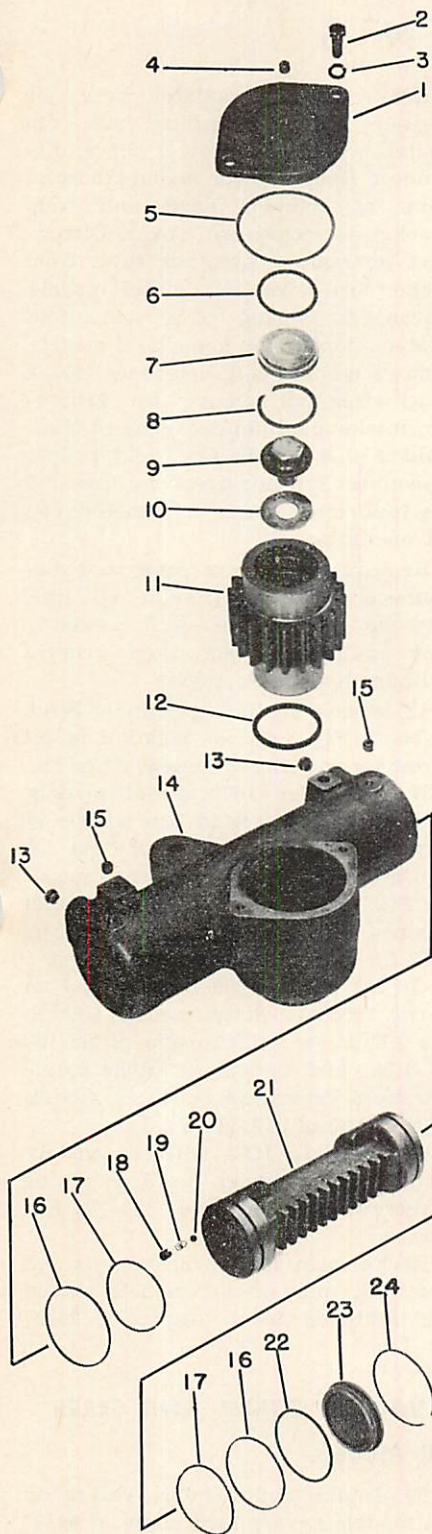

Fig. O52 — Exploded view of power steering cylinder assembly used on all models except those equipped with four wheel drive.
power steering cylinder and immediately cap all openings. Refer to Fig. O52; remove plug (4) from cap (1) and remove cap from power steering cylinder. Pry plug (7) from pinion (11). Pull pinion from splines of front assembly shaft by turning puller bolt (9) counter-clockwise.
Reverse removal procedures to re-install cylinder. Punch mark on tooth of pinion (11) must be aligned with center tooth groove in piston as shown in Fig. O51. Tighten the puller bolt to a torque of 200 Ft.-Lbs., and tighten the nuts on torque link and tapered stud securely. Install plug (7—Fig. O52) with new "O" ring (6). Fill cavity around pinion with proper power steering fluid (see paragraph 48) before reinstalling cap (1) with new "O" ring (5).
58. OVERHAUL POWER STEERING CYLINDER. After removing the cylinder assembly as outlined in paragraph 57, proceed as follows: On Wheatland and Industrial models, remove pinion (11—Fig. O52). Remove snap ring (8), puller bolt (9) and washer (10). To remove end plug retaining snap ring (24), insert pin or punch in hole (H—Fig. O50) and push snap ring from groove in cylinder. Grasp one of the lugs on end plug with vise-grip pliers and, with a twisting motion, pull end plug from cylinder. Remove plug sealing "O" ring (22—Fig. O52) from end of cylinder and remove the piston (21). Re-